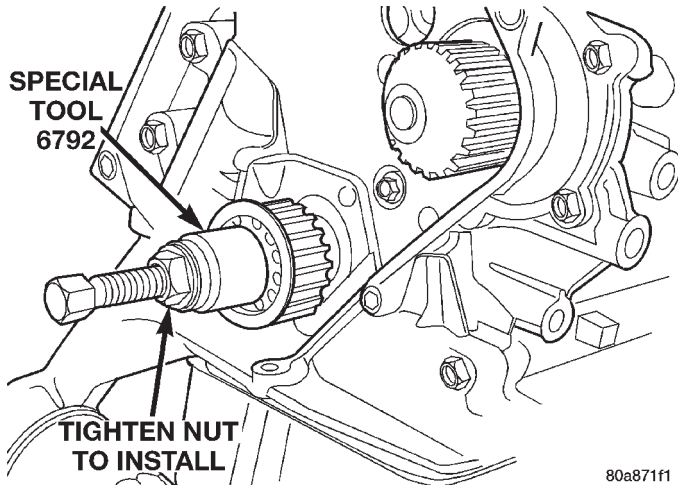

Fig. 81 Crankshaft Sprocket—Installation
(6) Install crankshaft sprocket, using Special Tool 6792 (Fig. 81).